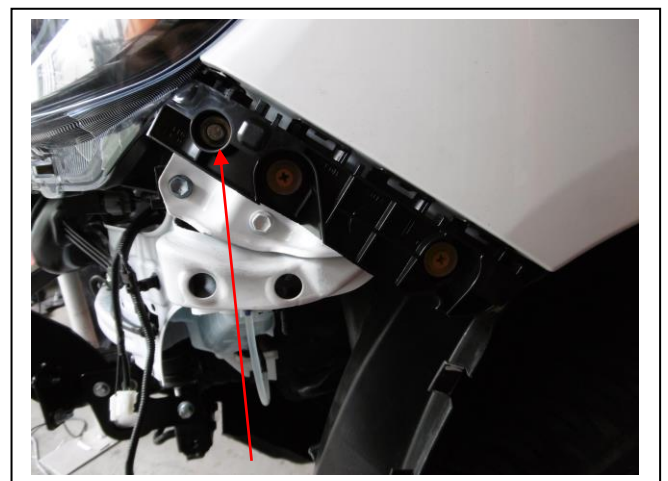

Figure 8. M6 bolt in locater fitted
19. Refit bumper locator to vehicle, fix with M6 x 20mm bolt, flat washer and nyloc nut in top front hole. **See figure 8**. (Each side)